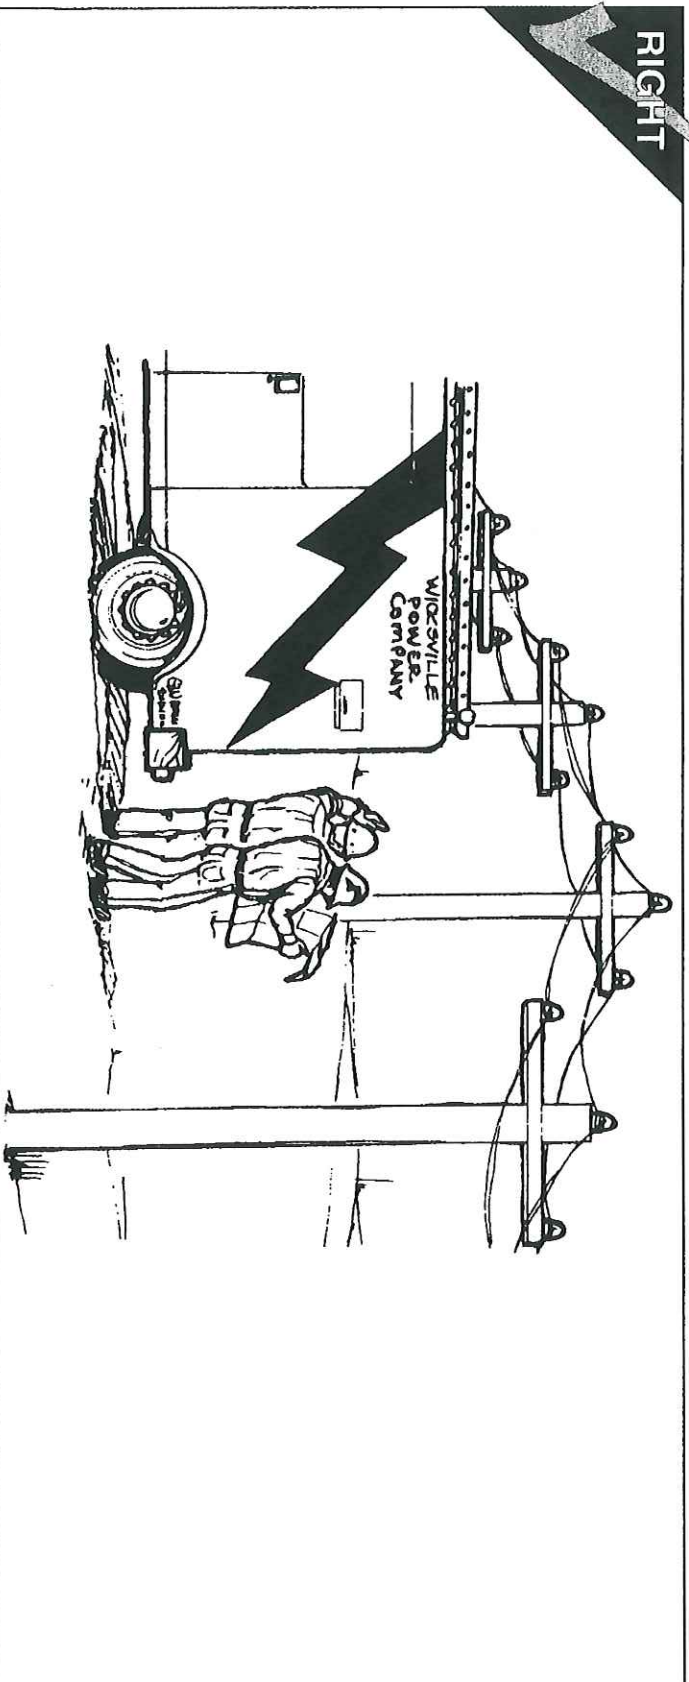

FIG. 33
- It is the responsibility of the user and the electric utility to see that necessary precautions are taken. (FIG. 33)